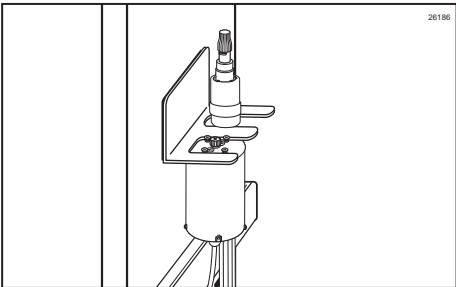

Figure 80
32. Replace the cap and hang the Assembly onto the Accessory Hanging Bracket. (See Figure 80.)